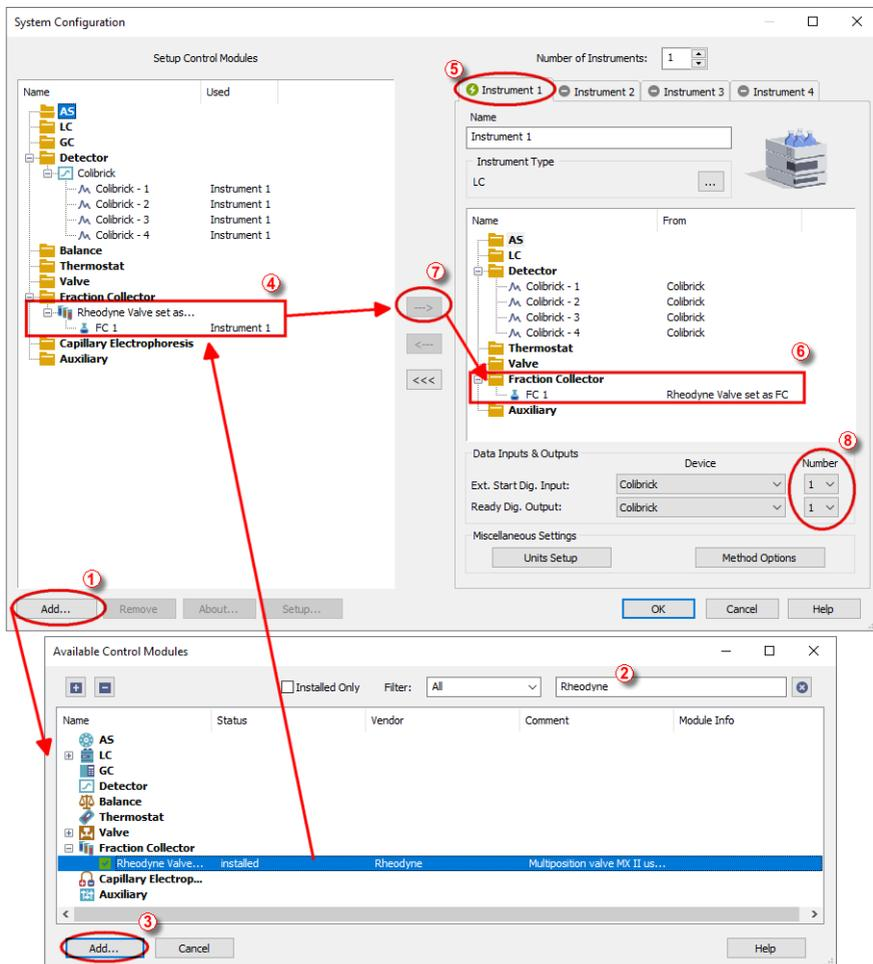

Fig. 2: How to add FC by Rheodyne Valve
- Press the *Add* button (① on Fig. 2 on pg. 4.) to invoke the *Available Control Modules* dialog.
- You can specify the search filter (②) to simplify the finding of the driver.
- Select the correct item and press the *Add* (③ on **Fig. 2** on pg. 4.) button. Each device with already created UNI profile should have its own item named accordingly in the *Available Control Modules* dialog.